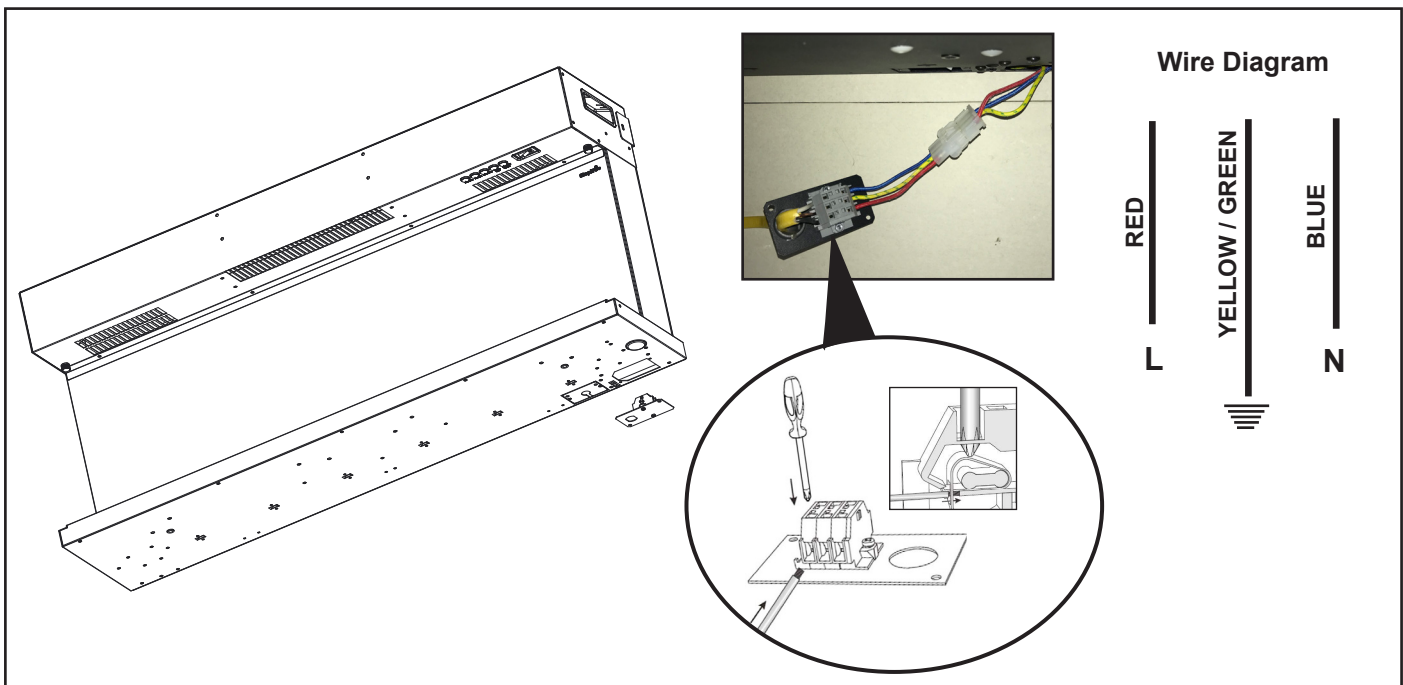

Figure 4.10 Hard Wire Installation
3. Connect the three conductor wire connector to the connector on the hard-wire terminal block supplied with the appliance. See Figure 4.10.
5. Terminate type NM-B wire to the terminal block, ensure connections are secure, and tighten the strain relief. Use 3/32 slotted head screwdriver, or equivalent, to depress the spring loaded terminals for the conductors. See Figure 4.10.